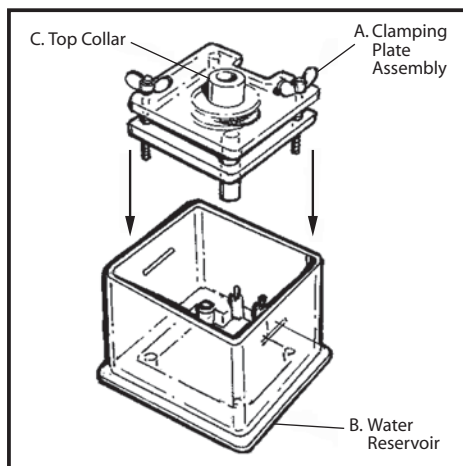
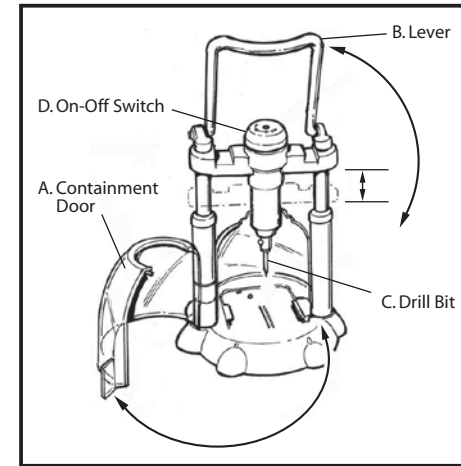

Figure 1
Figure 3: Rock Driller
1. Open the Containment Chamber Door (Fig. 3, A).
3. Lift the Clamping Plate (Figure 1, A) up and out of the Water Reservoir (Figure 1, B).
10. Slide the Clamping Plate back into the Water Reservoir (Fig. 1, B).
1. Close the Containment Chamber Door (Figure 3, A). NOTE: THE DRILL WILL NOT TURN ON UNTIL THE DOOR SNAPS SHUT, AND THE WATER LEVEL IS FULL!
2. To help assure accurate hole placement, lower the drill by pulling the lever (see Fig. 3, B) toward you, which lowers the drill bit through the Clamping Plate's top collar (Fig. 1, C) before turning the drill on.
3. Turn the rotary Power On-Off Switch (Fig. 3, D) counterclockwise to the "ON" position.
5. Slowly pull the Lever (Fig. 3, B) towards you, to lower the Drill Bit (Fig. 3, C) into the water and onto your rock. You will feel resistance as the drill bit begins cutting the rock.